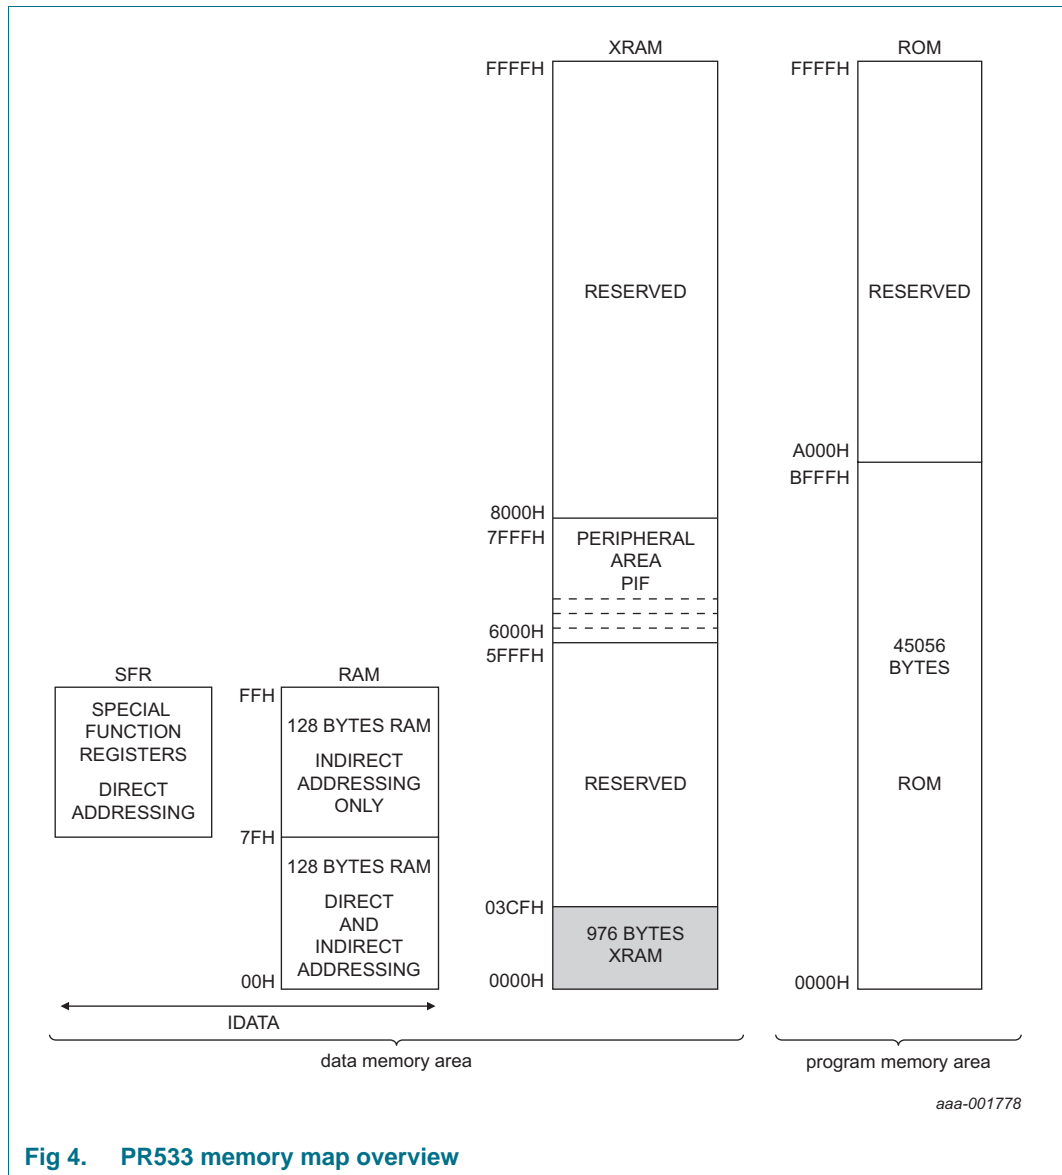

Fig 4. PR533 memory map overview
- RAM interface to embedded IDATA and XRAM memories (see Figure 4 on page 9)